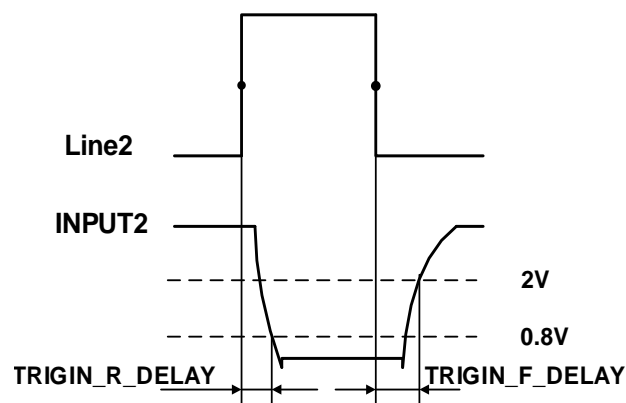

Figure 7-23 Parameter of Line2 input circuit
- Input rising time delay:  $<2\mu\text{s}$  ( $0^{\circ}\text{C}\sim 45^{\circ}\text{C}$ ), parameter description as shown in Figure 7-23
- Input falling time delay:  $<2\mu\text{s}$  ( $0^{\circ}\text{C}\sim 45^{\circ}\text{C}$ ), parameter description as shown in Figure 7-23